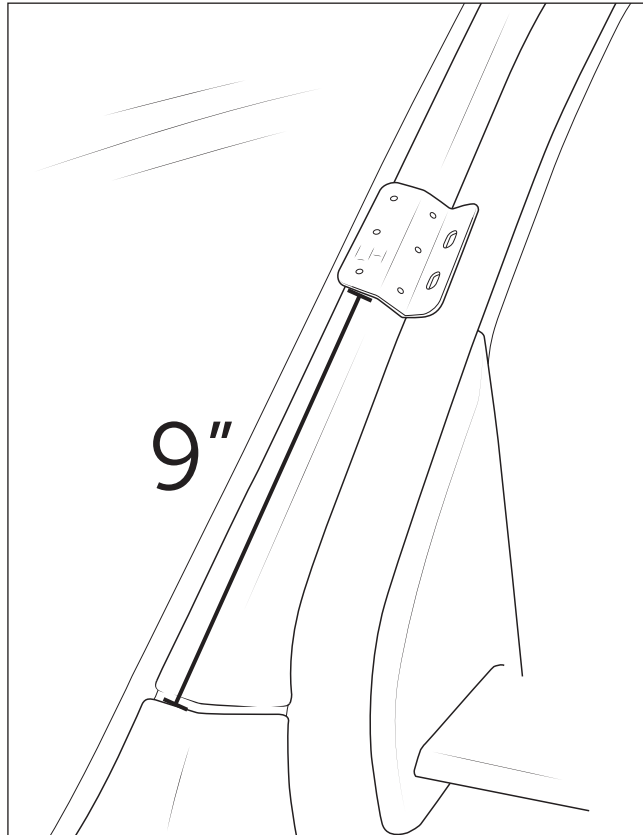

Figure 5
11. Attach A-Pillar Bracket to A-Pillar (fig 5):